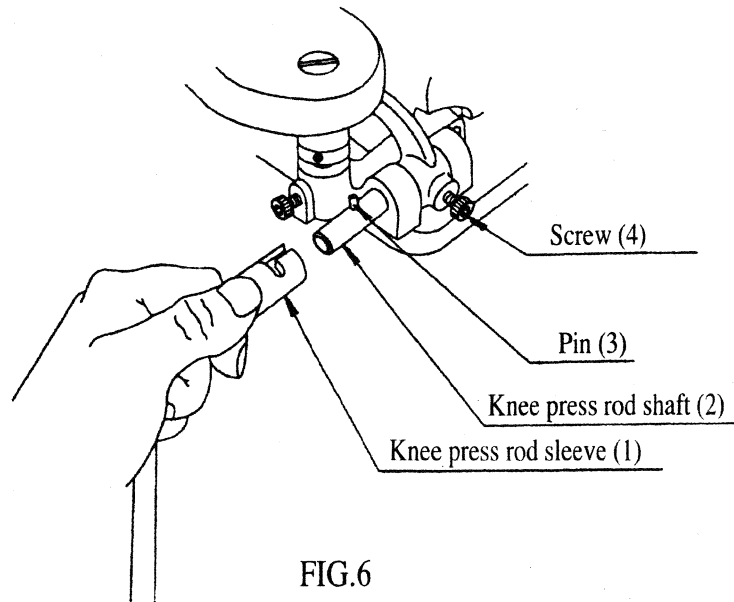

FIG.6
D. INSTALLING KNEE PRESS ROD (FIG.6)